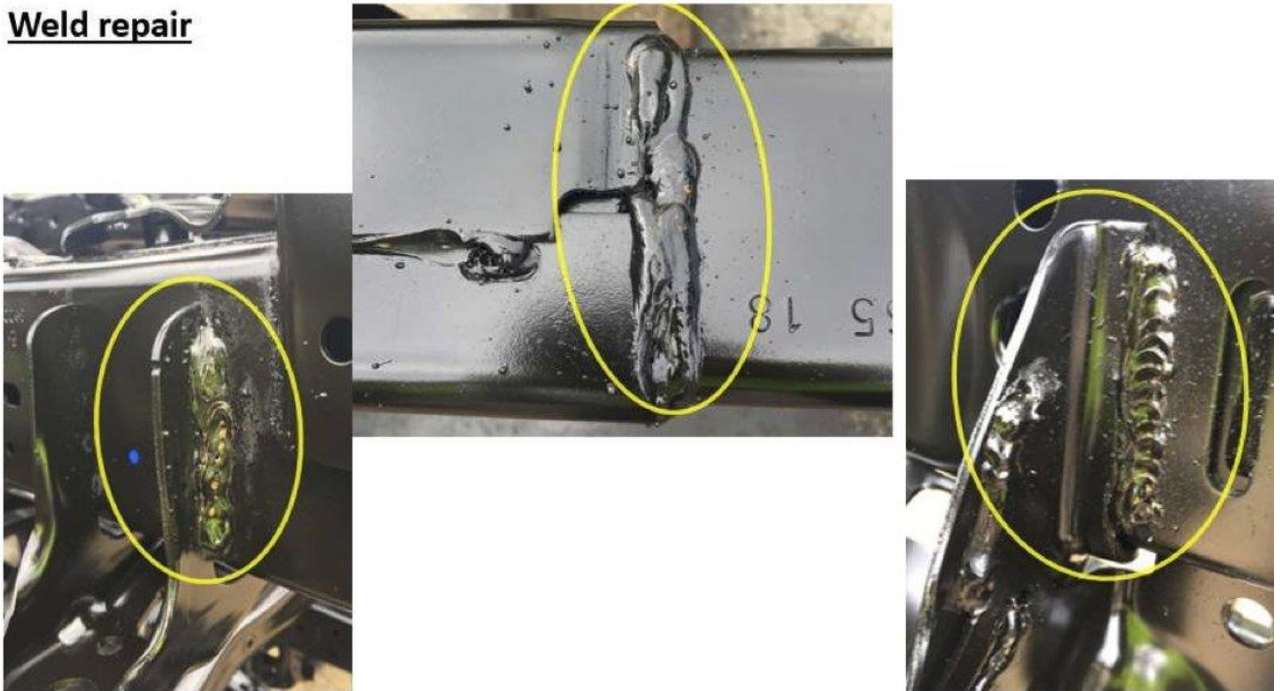

Fig 3 Reprocessed weld.
3. Reprocessed weld repair (performed at frame production plant). Applied usually adjacent to an original weld (fig 3) . This is acceptable and inherent to high – volume MIG welding processes. For FCA approved refinishing and corrosion protection following a repair refer to TechCONNECT Collision Tab group 31 - Collision Information/Standard Procedure CORROSION PROTECTION.